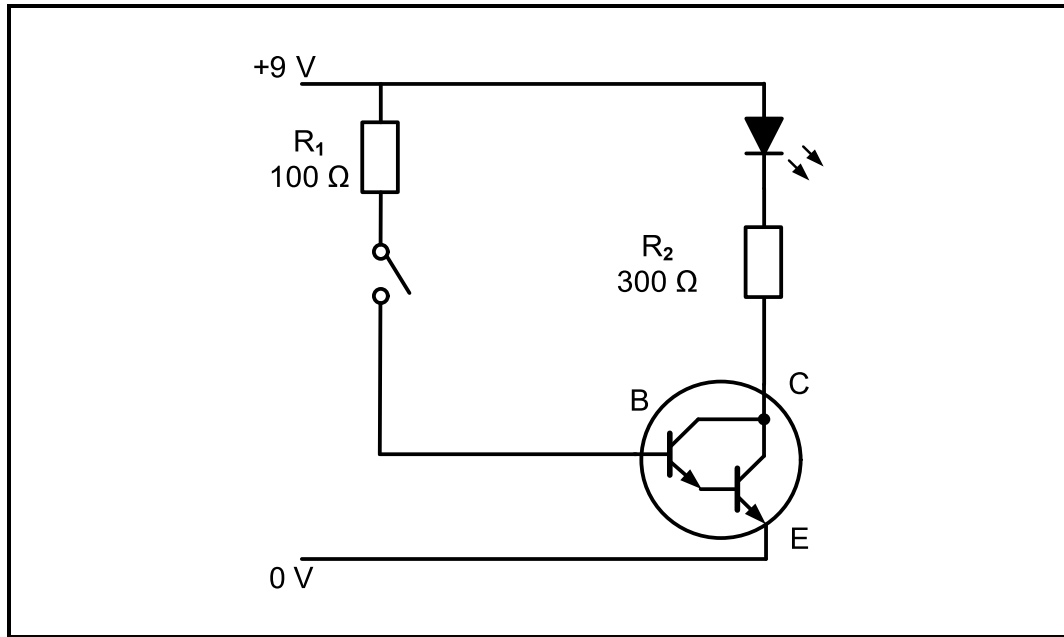

FIGURE 4.4: DARLINGTON TRANSISTOR
4.4 Refer to FIGURE 4.4 below and answer the questions that follow.
- 4.4.1 Name ONE application of the circuit in FIGURE 4.4 above. (1)
- 4.4.3 State the purpose of the 100 Ω resistor in FIGURE 4.4 above. (1)